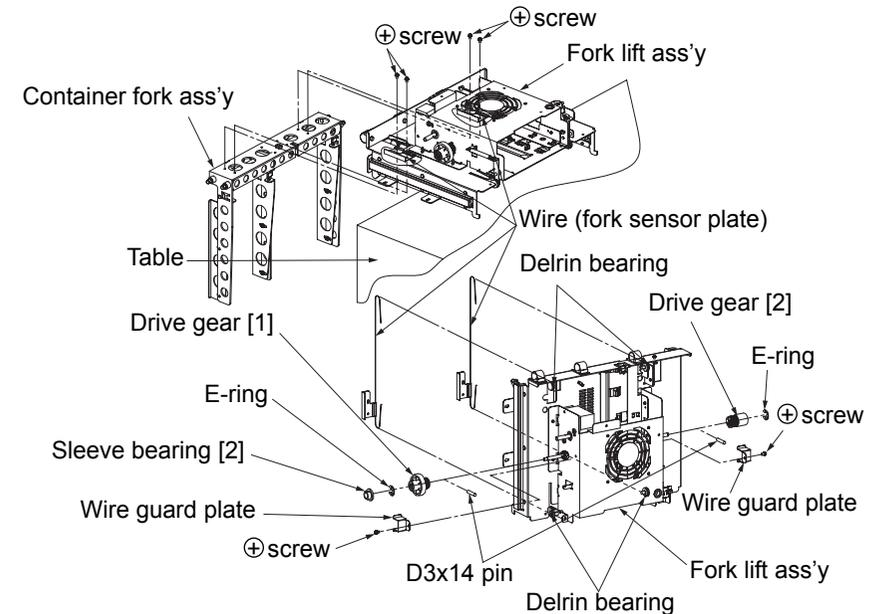

Fig. 6-32. Removal of the wire (fork sensor plate) U/L
2. Put the fork lift ass'y on the table and position it as shown in Fig. 6-32.